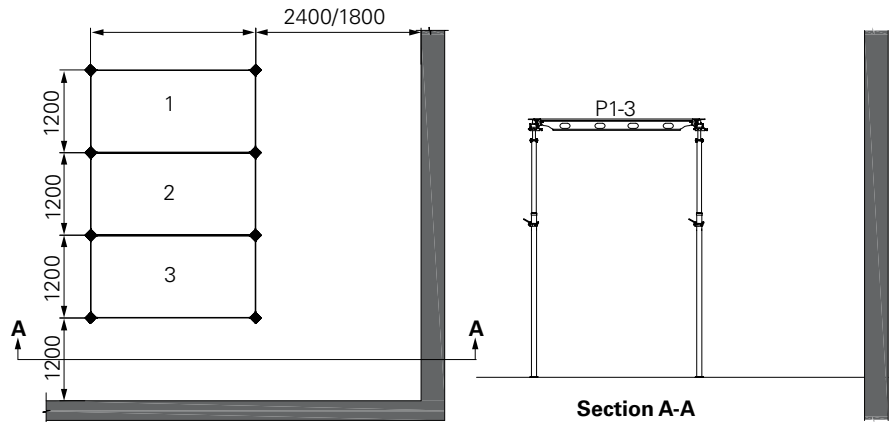

Fig. A6.07
1. Shutter the panels 1 to 3, see Section "A4 Shuttering" on page 33. (Fig. A6.07)